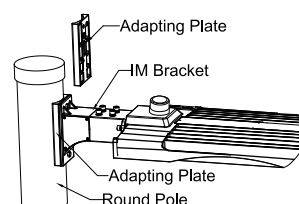

Figure 5
3. Notice Round pole should be with adapting plate. (Figure 5)